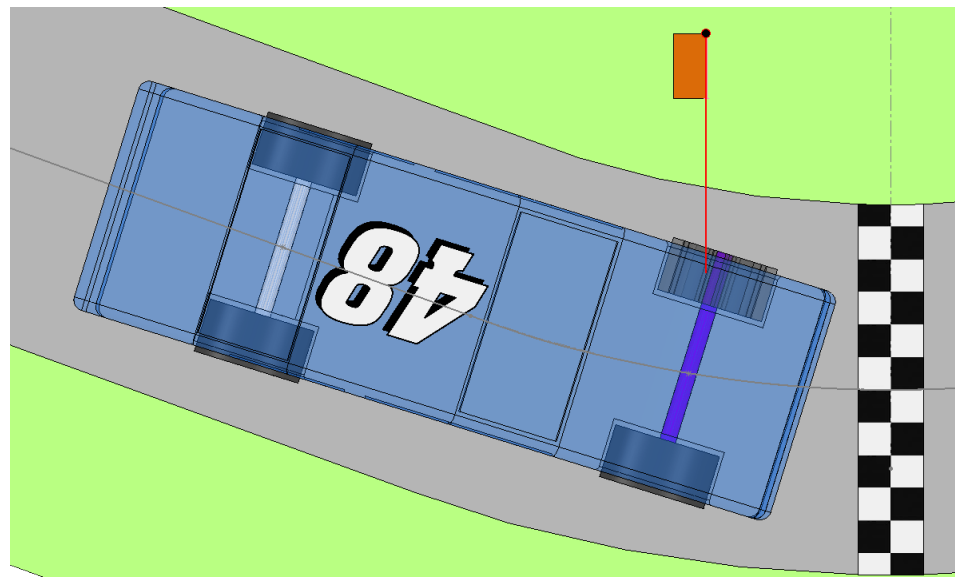

Fig. 16
Step 4. In **Fig. 16** I switched to the Top View and changed transparency of the Car Body and Wheel to illustrate that Sensor has to be positioned behind the Axle.